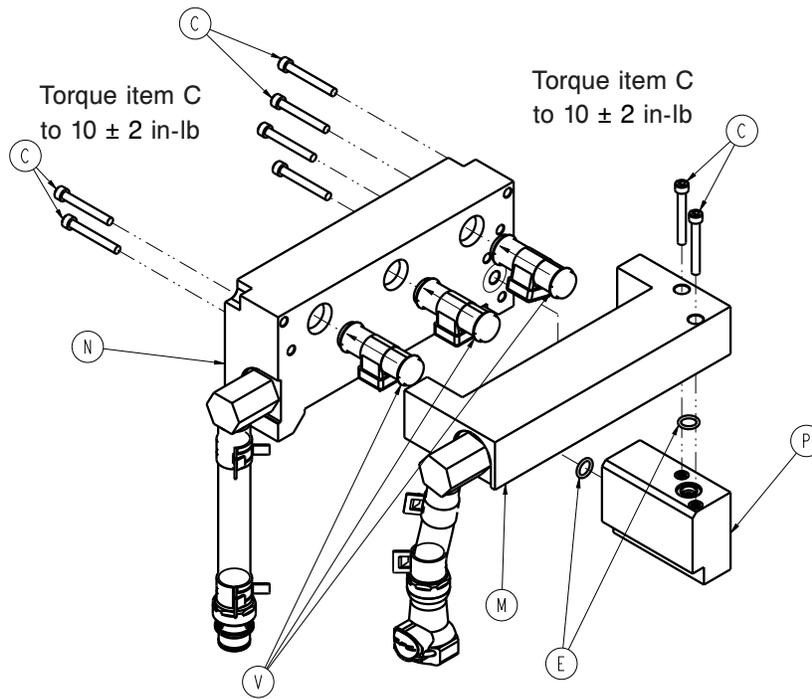

Figure 42 – Manifolds
16. Using a 7/16" socket and ratchet, loosen the two nuts (D) that secure the MCB bracket to the control assembly bracket.
19. Using a 5/32" hex wrench, remove the four screws (C) that secure the return manifold assembly (N) to the supply manifold assembly (M) (Figure 42). Save the screws.